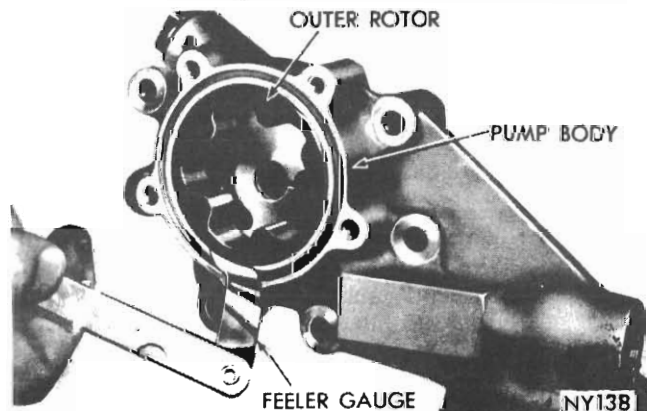

Fig. 5 - Measuring outer rotor clearance (typical)
(6) Slide outer rotor into pump body, press to one side with fingers and measure clearance between outer rotor and pump body (Fig. 5). If measurement is more than .014", replace oil pump body.
(6) Slide outer rotor into pump body, press to one side with fingers and measure clearance between outer rotor and pump body (Fig. 5). If measurement is more than .014 inch, replace oil pump body.